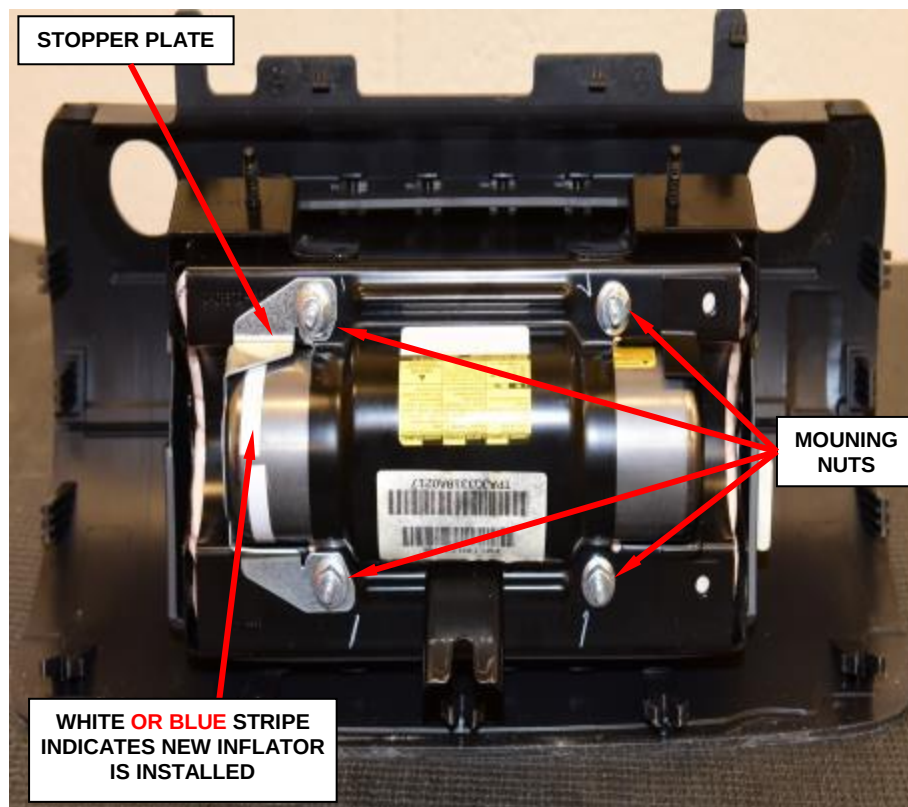

Figure 172 – Retrofit Complete
- o. Install the stopper plate to the airbag module (Figure 172).
- p. Install the four new mounting nuts to the airbag module and tighten to 62 in. lbs. (7 N·m) (Figure 172).
- q. Passenger airbag retrofit is complete (Figure 172).